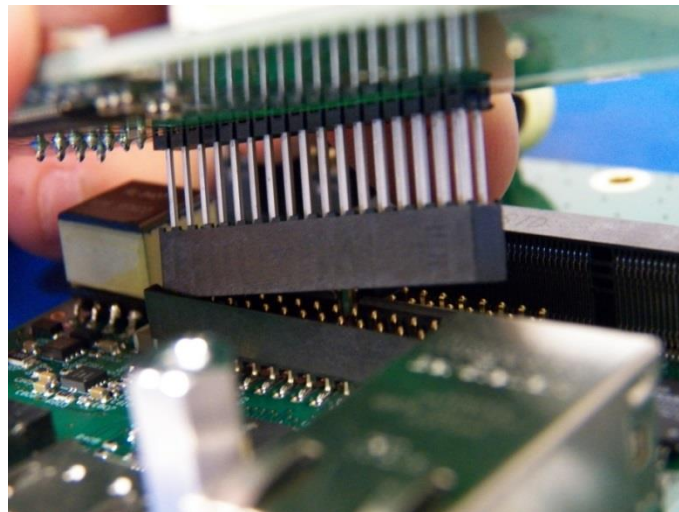

Figure 1: Connecting the Video Adapter PCA to the Dev Board PCA
2. Connect the Dev Kit Video Adapter PCA to the Development Board PCA, such that it would rest on the installed standoffs. The connector pins of the Development Board PCA should firmly connect with the connector pins of the Video Adapter PCA. See Figures 1 and 2.